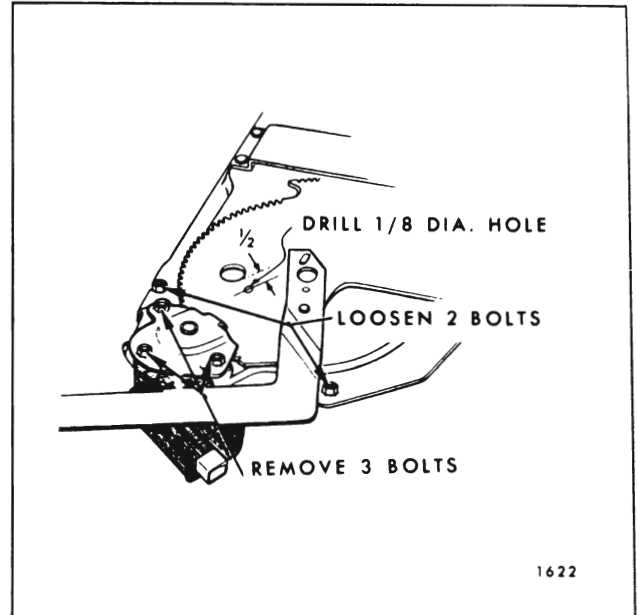

Fig. 9-12—Tail Gate Regulator Motor Assembly
4. Drill a 1/8" hole through regulator sector and back plate. (See Fig. 9-12). DO NOT drill hole closer than 1/2" to edge of sector gear of back plate. Install a pan head sheet metal tapping screw (#10-12 x 5/8) in drilled hole to lock sector gears in position.